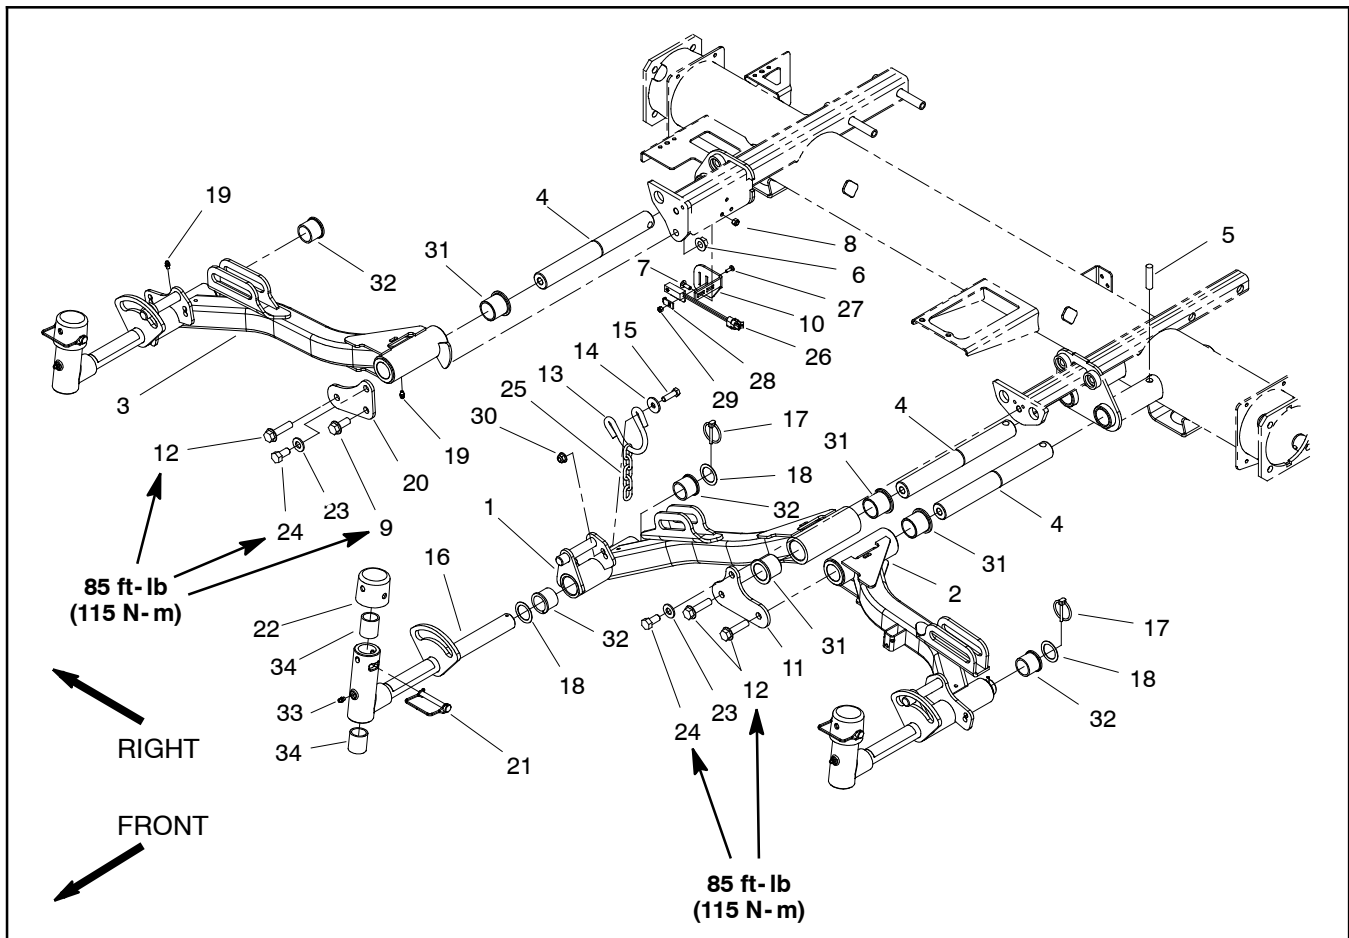
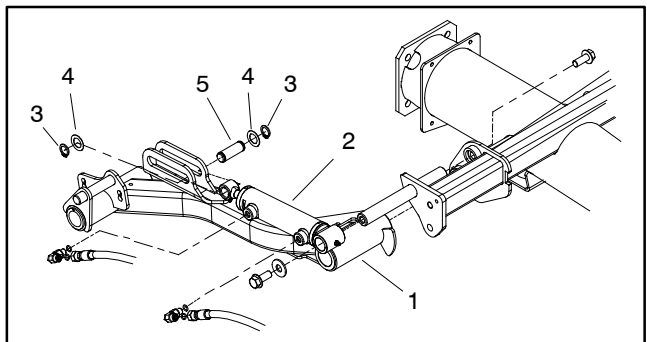
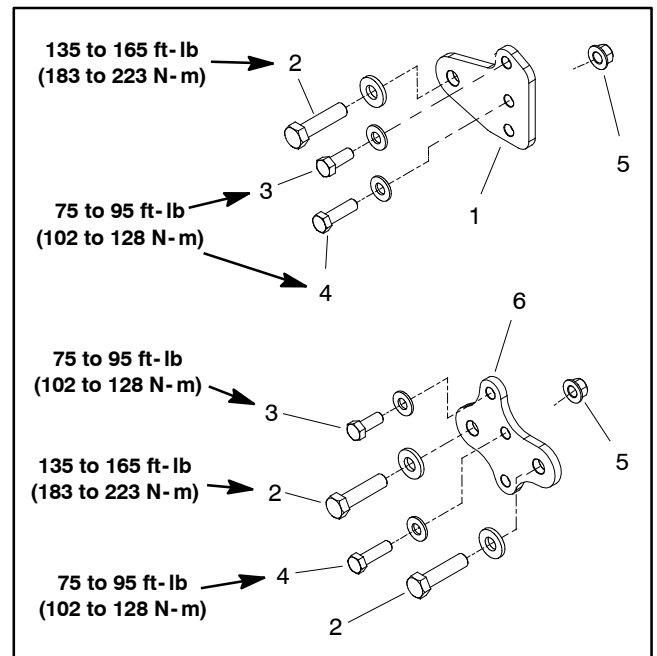

Figure 17
Figure 18
Figure 19
### Removal (Fig. 17)
3. Remove one retaining ring (Fig. 18 item 3) and thrust washer (Fig. 18 item 4) from the cylinder pin (Fig. 18 item 5) that secures lift cylinder to lift arm. Pull cylinder pin from the lift cylinder and lift arm. Locate and retrieve second thrust washer.
5. Remove lynch pin (item 17) and slide pivot yoke assembly from lift arm. Locate and retrieve two (2) thrust washers (item 18).
6. Remove fasteners that secure bridge plate to machine. The bridge plates on machines with serial numbers below 310000000 are secured with three (3) fasteners as shown in Fig. 17. On machines with serial numbers above 310000000, the bridge plates are secured with fasteners as shown in Fig. 19.
### Installation (Fig. 17)
1. Slide front lift arm onto pivot shaft. Secure lift arm with bridge plate. Apply medium strength threadlocker to threads of screws before installation. Tighten screws that secure bridge plate to torque values identified in Fig. 17 or 19.
2. Position thrust washer (item 18) onto pivot yoke shaft and then slide pivot yoke into lift arm bushings. Place second thrust washer on pivot yoke shaft and secure with lynch pin (item 17).
3. Align lift cylinder to lift arm mounting slot (Fig. 18). Slide cylinder pin (Fig. 18 item 5) with retaining ring (Fig. 18 item 3) and thrust washer (Fig. 18 item 4) through the lift cylinder and lift arm. Install second thrust washer on pin and secure with second retaining ring.